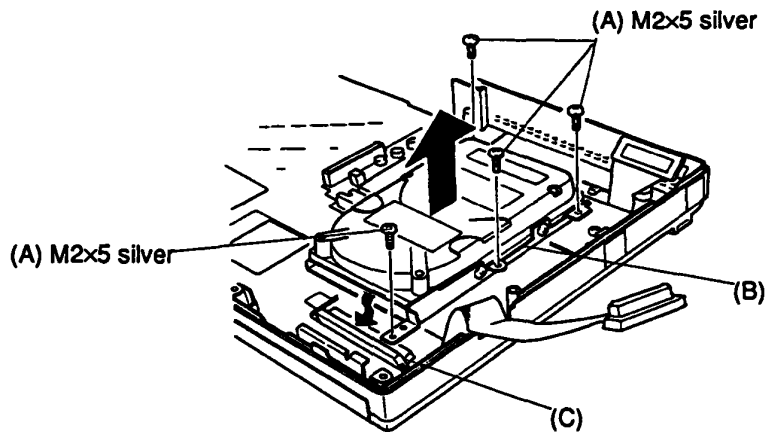

Figure 4-23 Removing the T4400SXC hard disk drive
To remove the T4400SXC's hard disk drive (HDD) follow these steps and refer to figures 4-23 and 4-24:
3. Remove the four screws (A) (M2x5 silver) securing the HDD bracket (B) to the bottom cover. Refer to figure 4-23
4. Disconnect the HDD cable (C) from the HDD. Refer to figure 4-23.
4. Secure the HDD in place with the four screws (M2×5 silver) removed in step 3. Refer to figure 4-23.